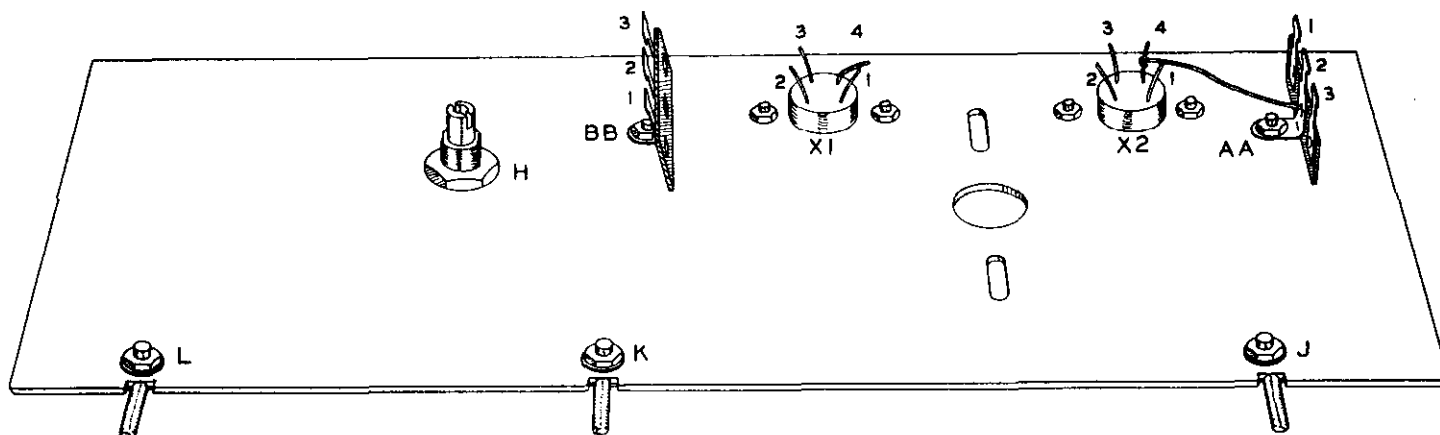

Figure 5
Refer to Figures 5 and 5A for the following steps.
- ( ) Bend transistor socket pin 4 on X1 down parallel to the plate, as shown in Figure 5.
- ( ) Connect a 1-1/4" length of #20 bare wire to pin 4 of transistor socket X2 (S-1). Insert the other end through the eyelet hole in lug 2, terminal strip AA (NS). See Figure 5.